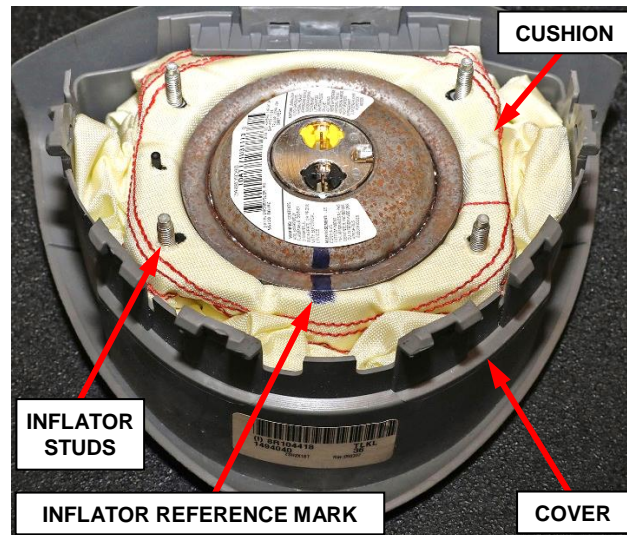

Figure 14 – Install Cushion into Cover
1. Install the air bag cushion into the **NEW** cover starting by tucking the cushion into the top of the cover. Once the top is tucked, apply pressure to the rest of the cushion and inflator to fit snugly into the cover. Ensure inflator studs are in a central location identical to production position. Ensure the inflator is lined up with the reference mark made earlier (Figure 14).